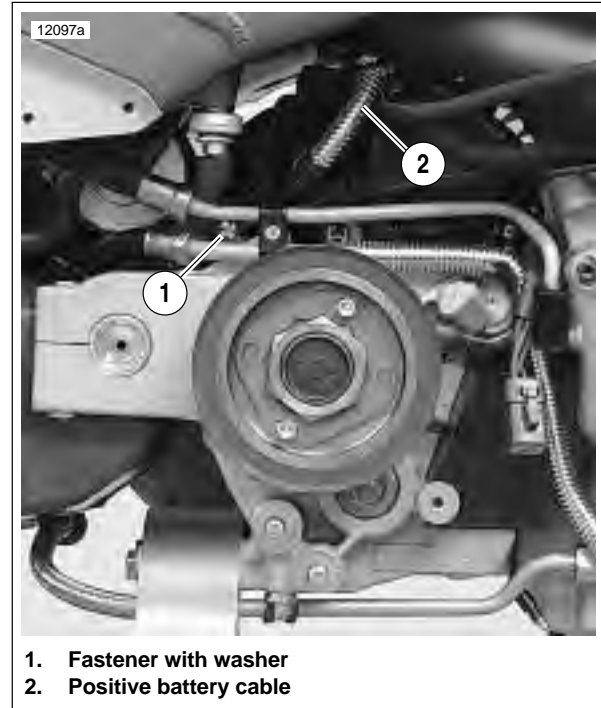

Figure 7-43. Positive Battery Cable
- a. See Figure 7-43. First, connect positive cable to starter using fastener with washer. Tighten fastener to 60-85 **in-lbs** (7-10 Nm).